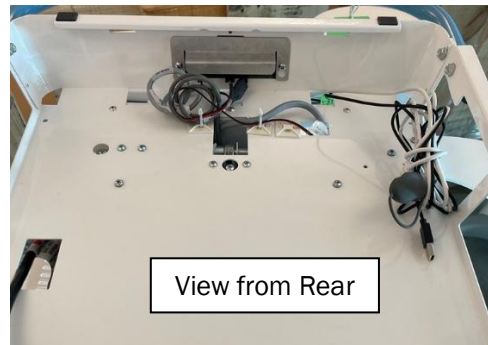

Figure 1: Open the Top Sink
1. Before beginning, unplug the cart from the wall if plugged in. Unlock and slide off the top work surface revealing the PC bay and rear of the status module as seen in Figure 1.